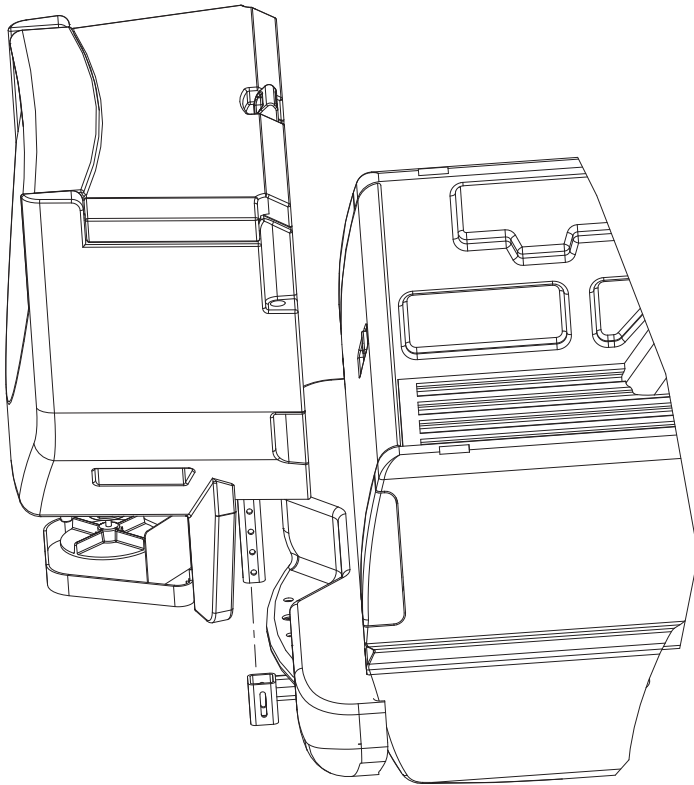

Fig. 5
5. Install Spreader Assembly to Vehicle Refer to Fig. 5